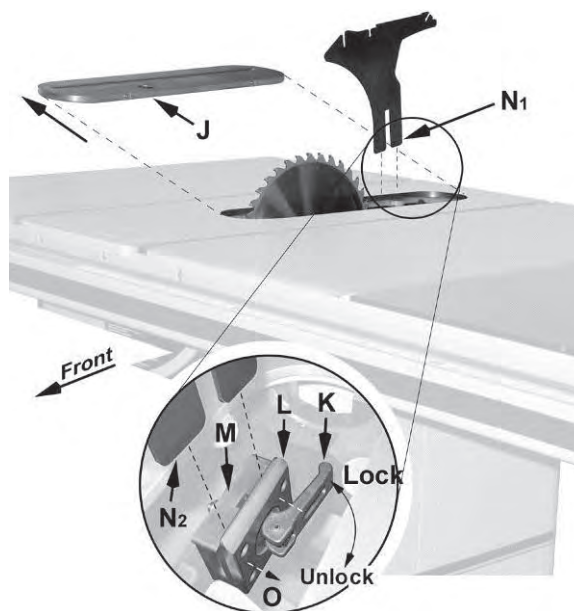

Figure 10
3. Press the *arbor lock* (D) in the direction shown by the arrow to engage it into the slot in the *arbor* (C). At the same time remove the arbor nut (loosen with a 27mm wrench if necessary).
4. Remove the *collar* (B).
5. Install the blade, making sure the cutting teeth at the top of the blade point toward the front of the saw. If unsure, refer to Figure 10 for the proper blade orientation.
6. Replace the collar (B) and arbor nut (A).
7. Engage the arbor lock (D) and tighten the nut (A) with a 27mm wrench.
Referring to Figure 10:
2. Remove the table insert (J).
3. Located inside the table and accessible through the insert opening (Figure 10 inset), place the quick-release clamp lock handle (K) in the *unlock* position.
4. The *floating clamp block* (L) is spring loaded and will move away (O) from the *fixed block* (M), leaving a gap.
5. Insert the bottom of the *riving knife* (N1, N2) all the way into the gap between the *clamp blocks* (L, M), then lock the handle (K).
6. Replace the *insert* (J) back on the table. The saw blade and riving knife should protrude through the slot in the insert.
The clamping blocks (L, M, Fig. 10) are adjusted at the factory and no further adjustment of the blade guard and riving knife assembly should be necessary. However, **proper alignment is very important**. Before operating the table saw, read the *Riving Knife Adjustment* section (p.18) to verify and follow the adjustment procedure if necessary.